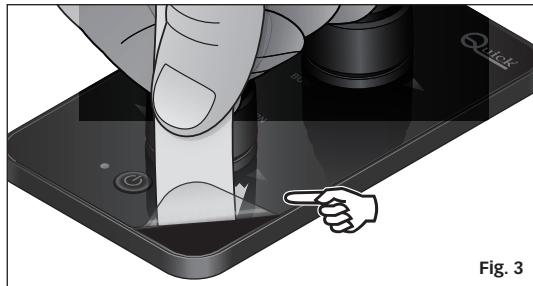

Fig. 3
- (**Fig. 3**) At the end of installation, remove the transparent protective film from the control surface. It is recommended to use a piece of adhesive tape to remove the transparent film.